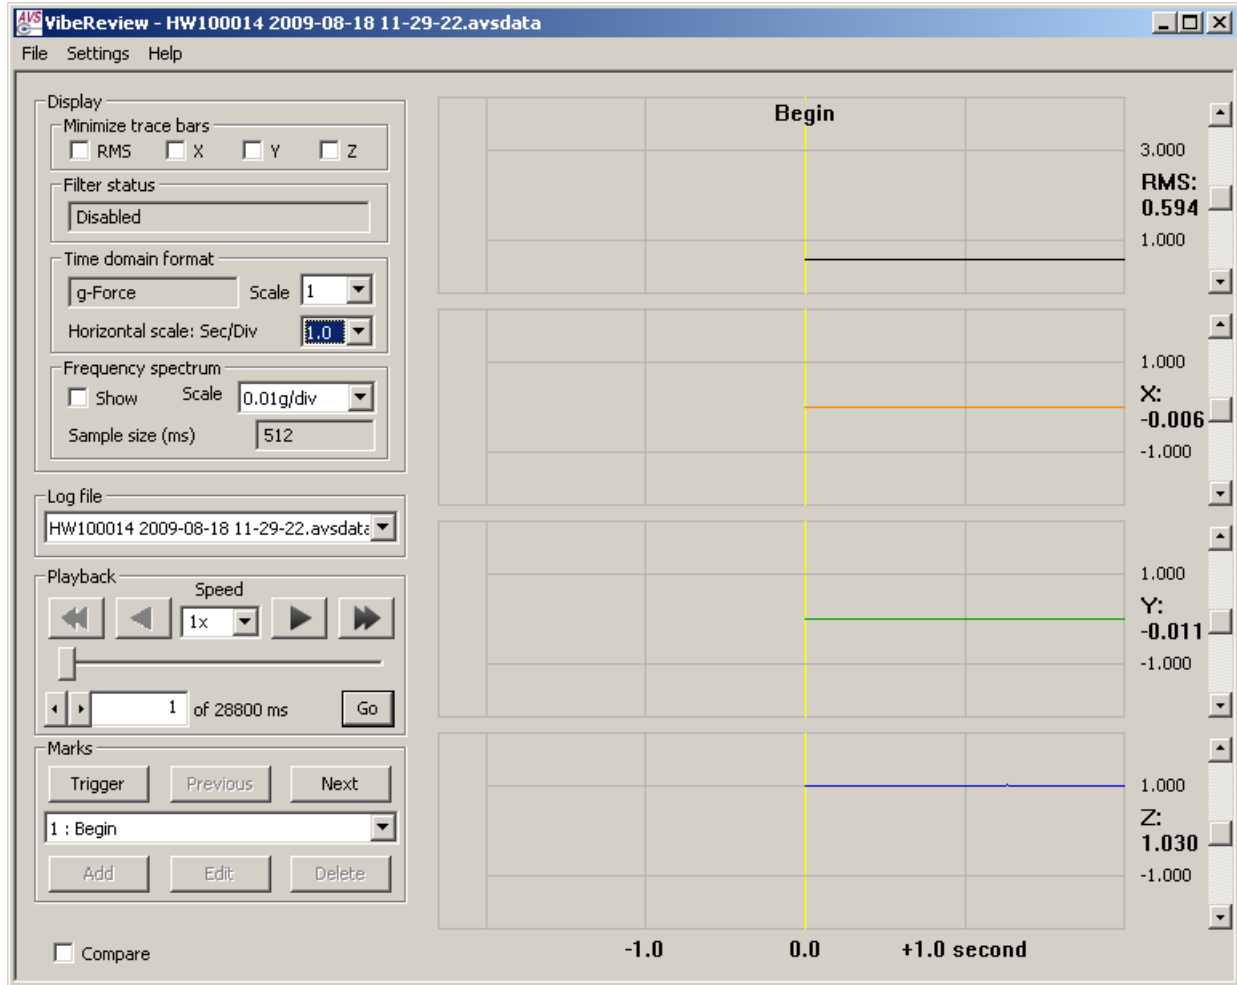

Figure 4.2: Opening a Log File
3. Choose a log file and click **Open**. VibeReview opens the log file and displays the traces at the beginning of the file (see Figure 4.2).